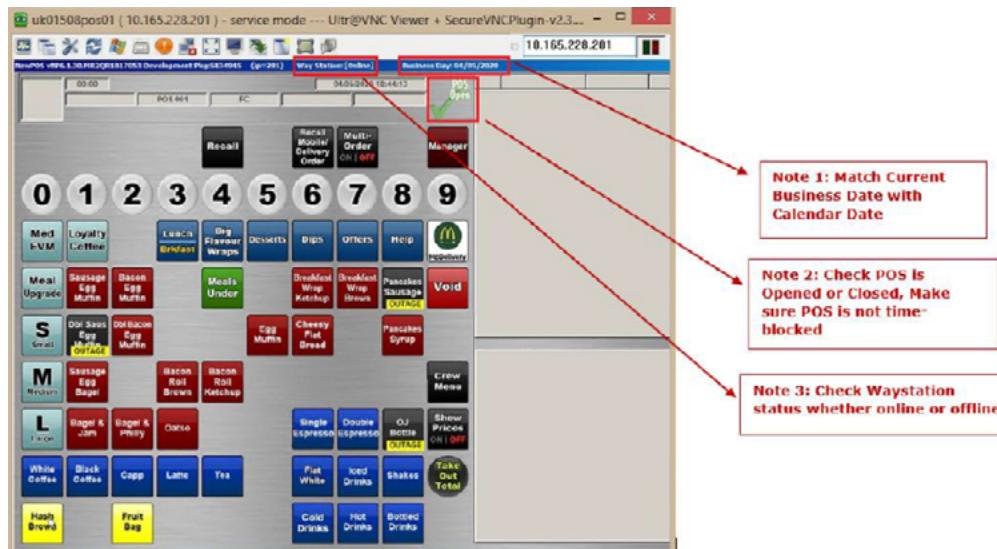

Figure 2: POS-till
- All POS-tills should show “Way Station: Online” (see figure 2).
- All POS-tills should be cashed out and should show “POS-Open” on POS-tills (see figure 2).